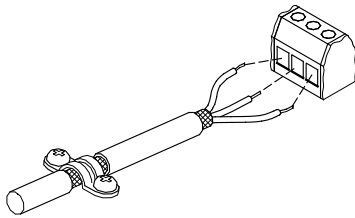

Fig. 38 Example of stripped cable with screen
- Leave the screen as close to the connecting terminals as possible. See fig. 38.